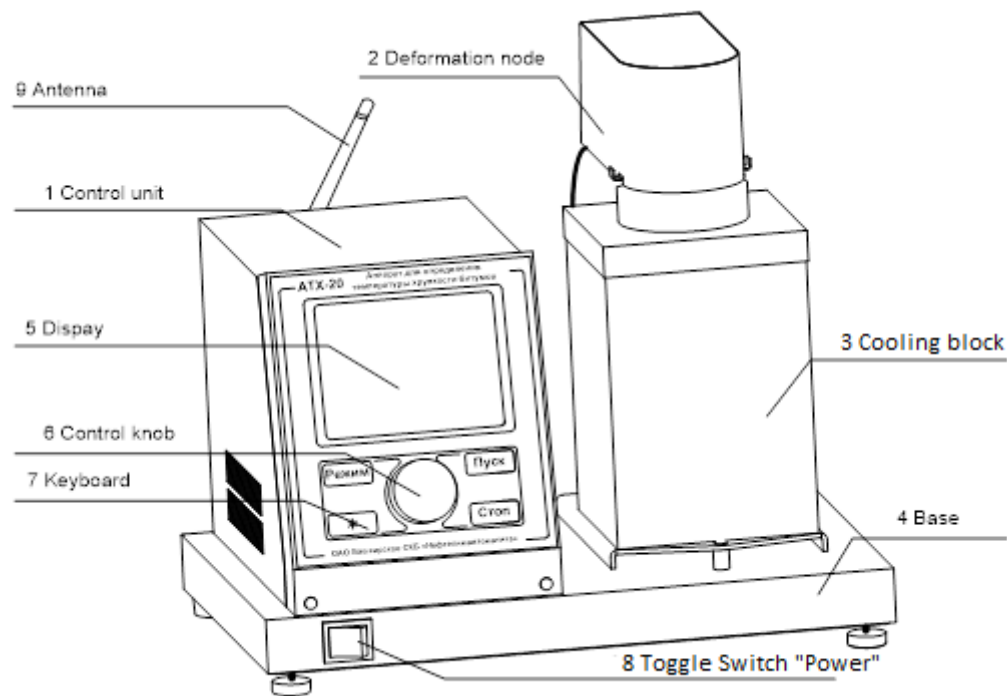
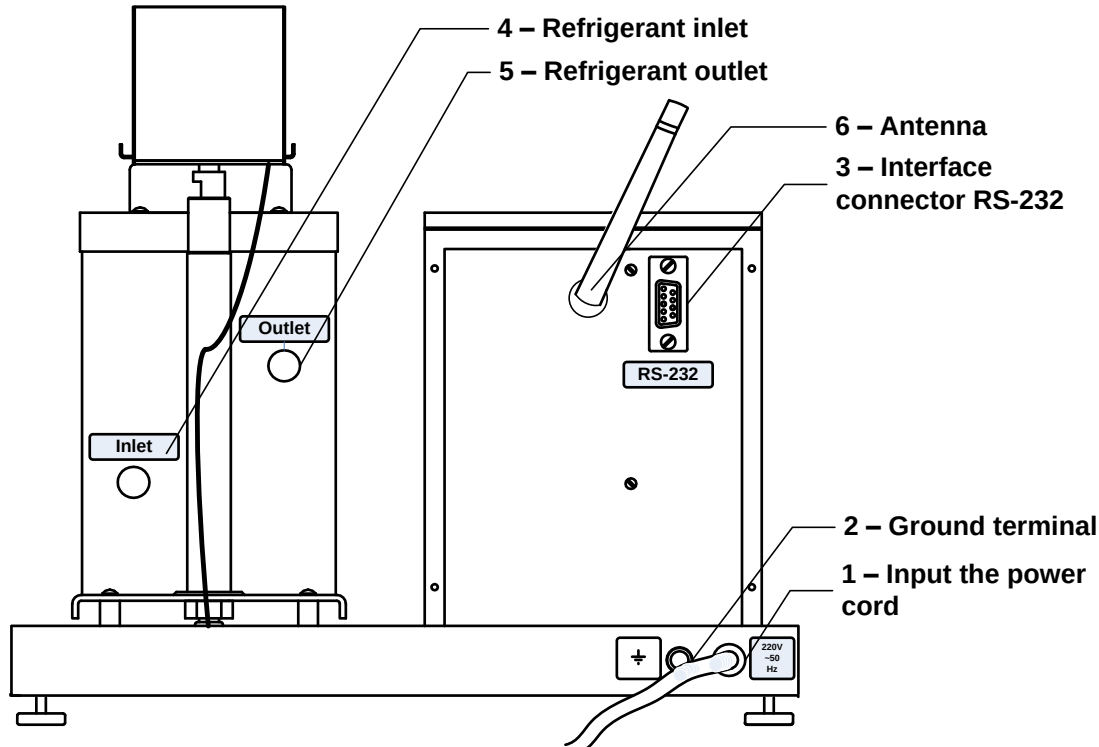

Figure 1 – The general view the tester
Figure 2 – Rear view
2.3.3.1 The general view of the tester is shown in figure 1.
2.3.3.3 The cooling block (3) is designed to cool the test sample. At the rear of the cooling block (see Figure 2) are the «**Inlet**» (4) and «**Outlet**» (5) fittings for connecting to an external refrigerant.
2.3.3.5 On the back of the base (see figure 2) are:
- terminal (2) for grounding the device;
- input for the power cord (1).
- liquid crystal graphic display (5) (see figure 1);
- control knob (6) (see figure 1);
- keyboard (7) (see figure 1);
- socket for connecting the antenna (6) (see figure 2);
- connector (3) (see figure 2) for connecting the tester to a PC via the RS-232 interface.
3.1.4 Using the Lintel-Link¹ program, you should install the antenna (6) from the attachment kit on the tester (see figure 2).